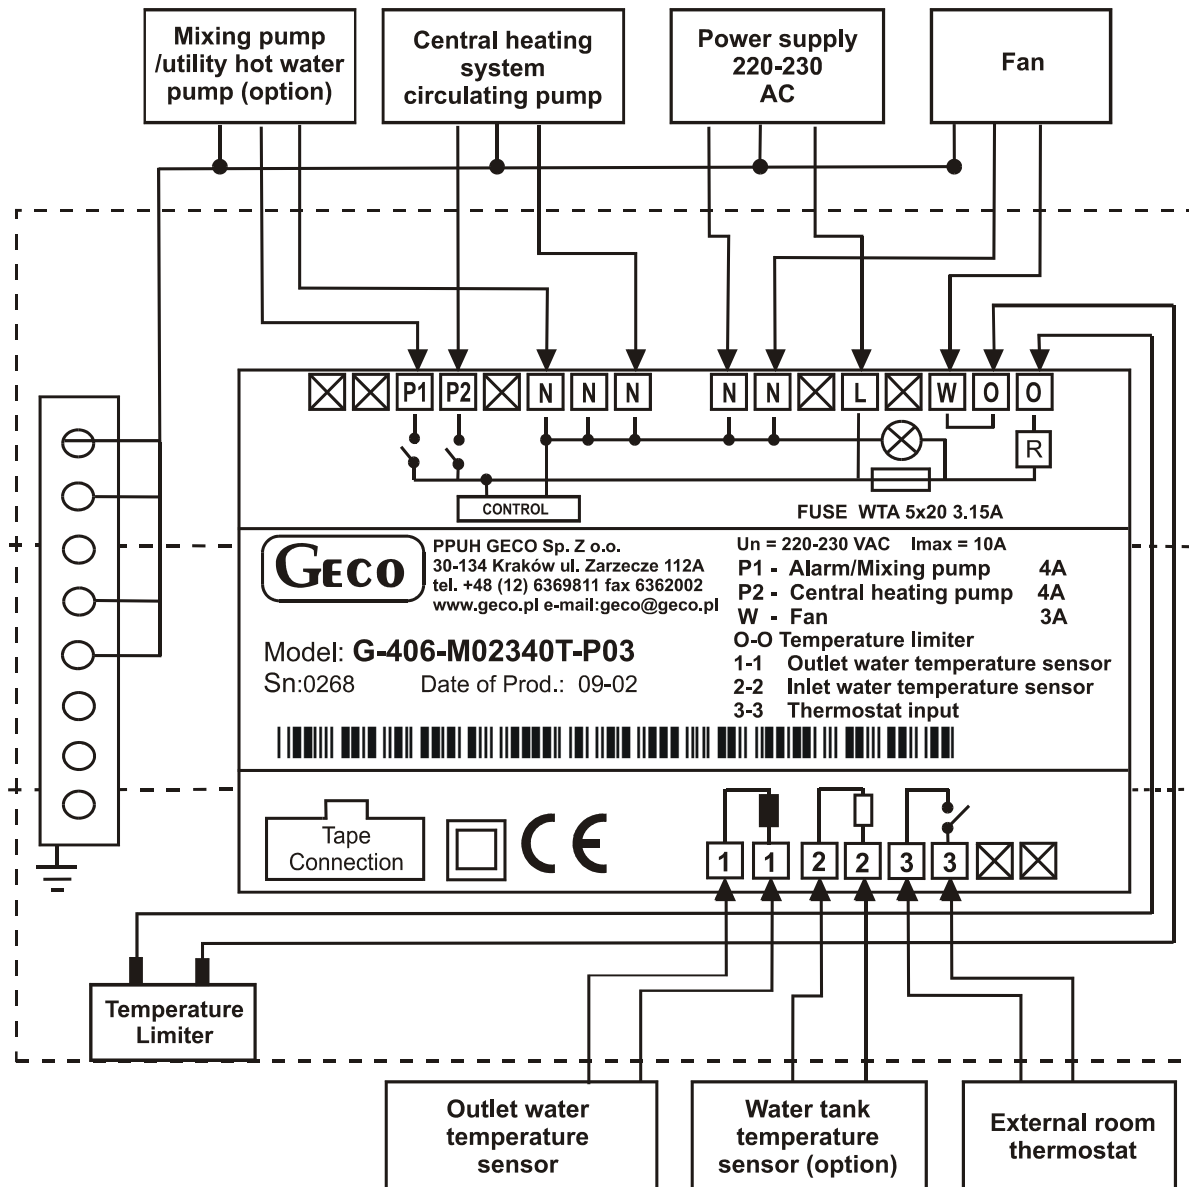

Figure 2. Diagram of equipment connection to the G-403-P02 controller
The controller has been expanded with the option of the realization of the boiler minimal temperature through the operation of the mixing pump connected to the alarm output (see figure 2).
3. Connect the **utility hot water temperature sensor** to the controller terminals as shown in figure 2.
It is possible to connect external thermostat into the G-406-P03 controller (\Rightarrow fig. 2). In case of its operation, it will join the output contacts and turn the boiler into the interlock mode.